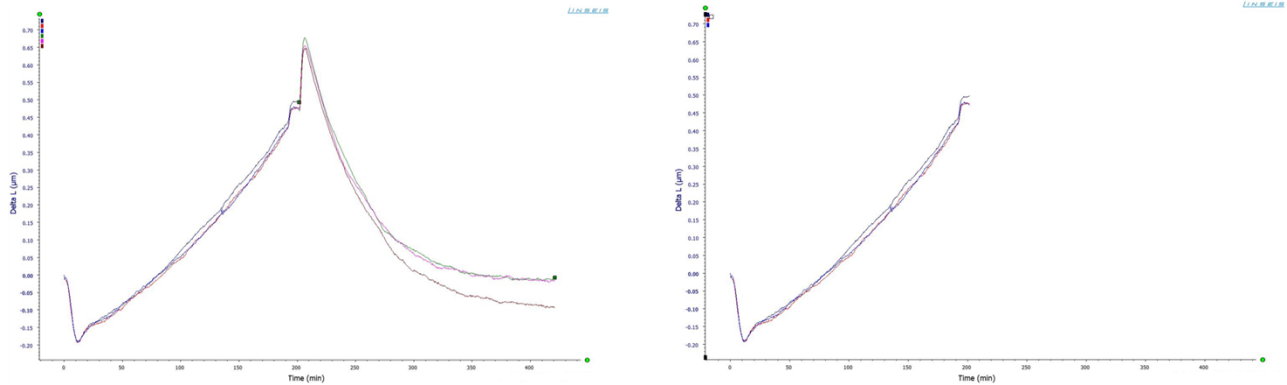

Figure 34. Curves separated into heating/cooling then cooling segments deleted.
- Delete the cooling segment or deselect the cooling segment in the project to only show the heating segments for each curve, see Figure 34.